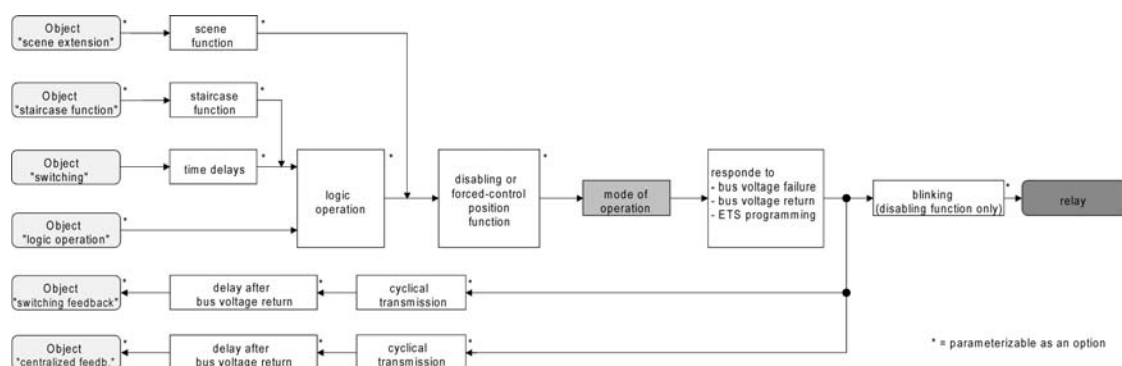

Figure 16: Function diagram "Operating mode"
- i** The logic switching state ("on - 1" or "off - 0") is set by the communication object "Switching" and influenced by the functions that can be optionally activated (e.g. timing/ staircase functions, logic operations, disabling/forced-control position functions, scenes) (Figure 16).